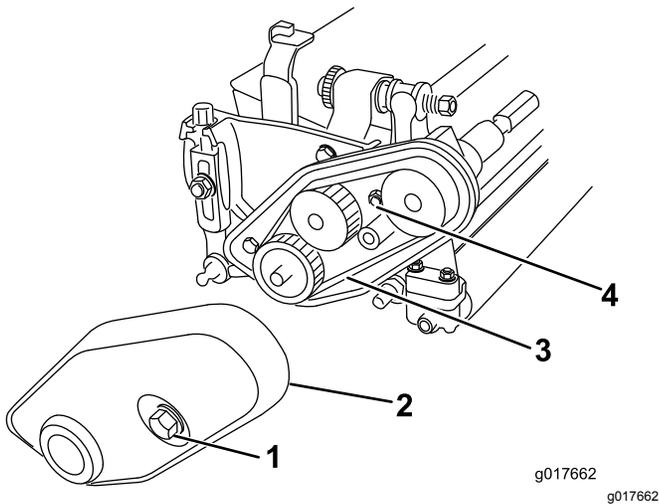

Figure 6
1. Loosen the captive bolt securing the belt cover to the cutting unit until you can remove the cover (Figure 6).
2. Loosen the belt-tensioning nut and remove the belt (Figure 6).